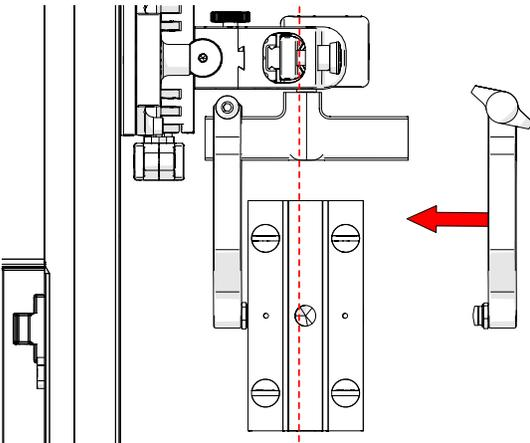

Fig. 48 - Align probe with yoke
6. Align the middle of the wedge with the centre of the yoke (Fig. 48).